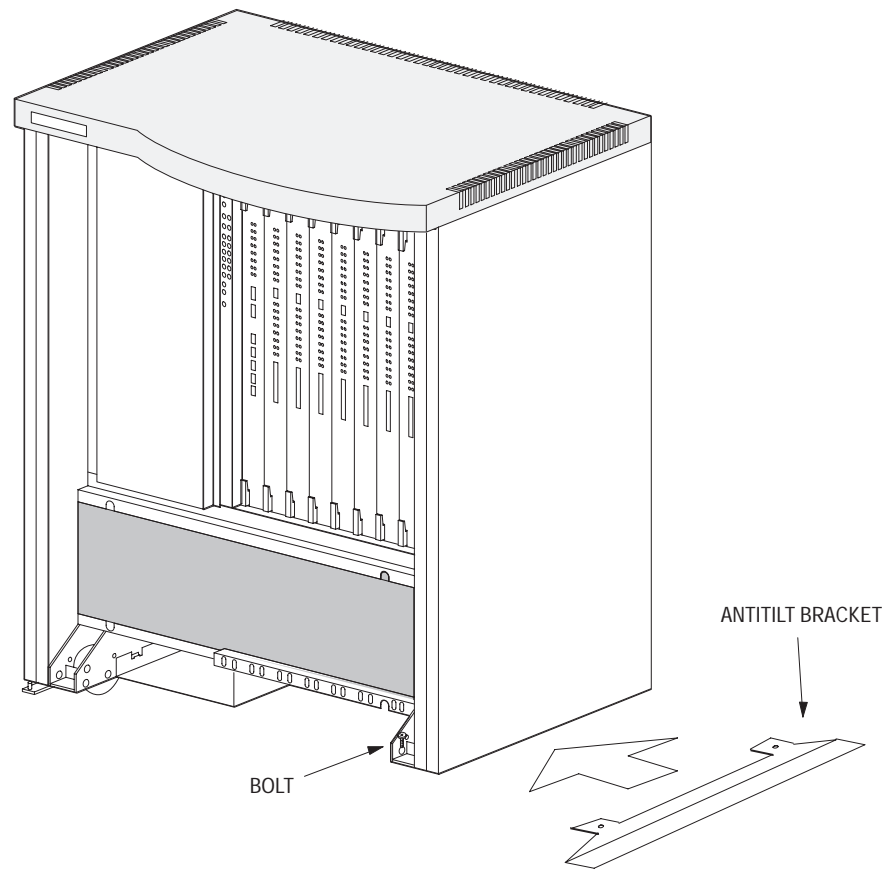

Figure 4-11. Position of the Antitilt Bracket, Side View.
2. Use a 1/4-inch wrench to remove the bolts. Slide the antitilt bracket under the wheel brackets, from the side of the server, as shown in Figure 4-11.